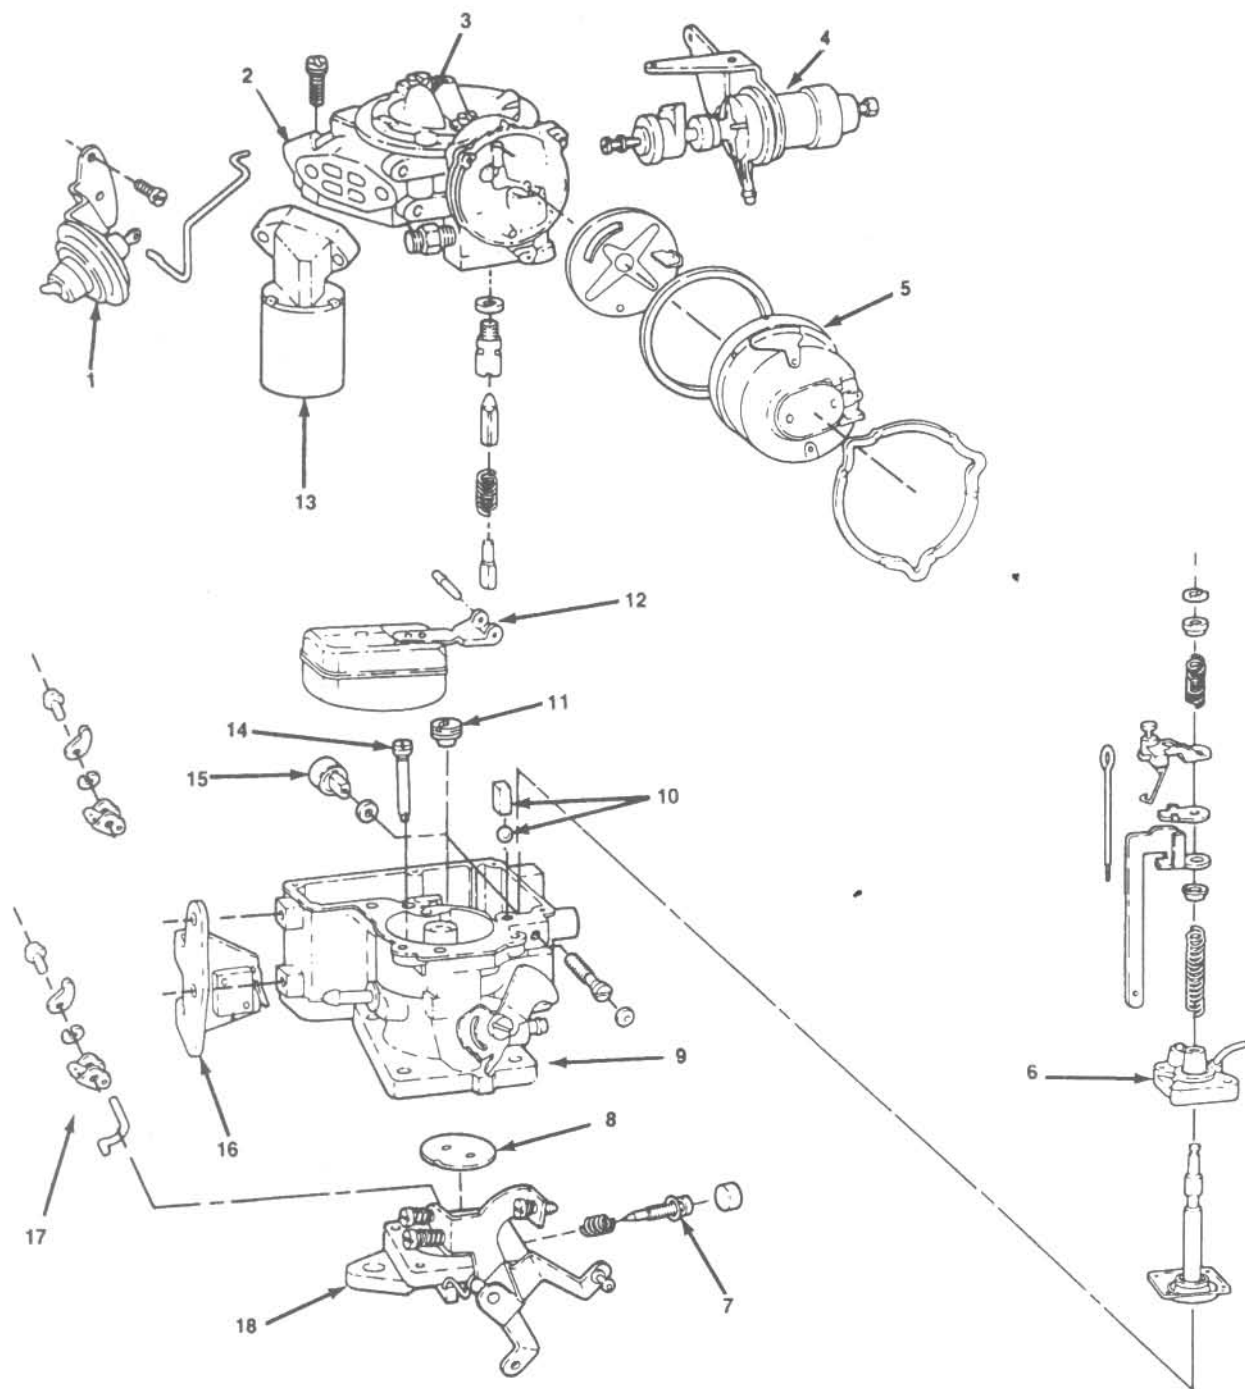

Fig. 4.70 YFA carburetor exploded view
- 1 Remove the choke cover by drilling out the rivet heads and then using a 1/8-inch punch, drive out the remainder of the rivets. Remove the choke retainer, thermostat spring assembly, housing gasket and locking/indexing plate (Fig 4.70).